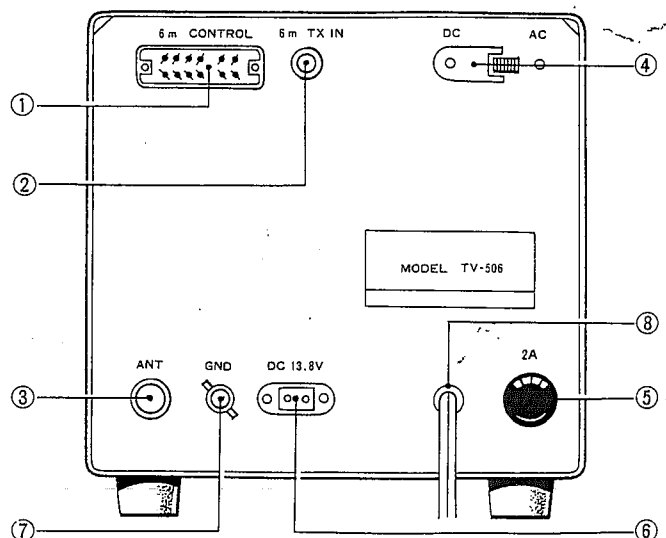

Fig. 3 Rear Panel
2.2 REAR PANEL (SEE Fig. 3)
- ① **6 M CONTROL CONNECTOR**